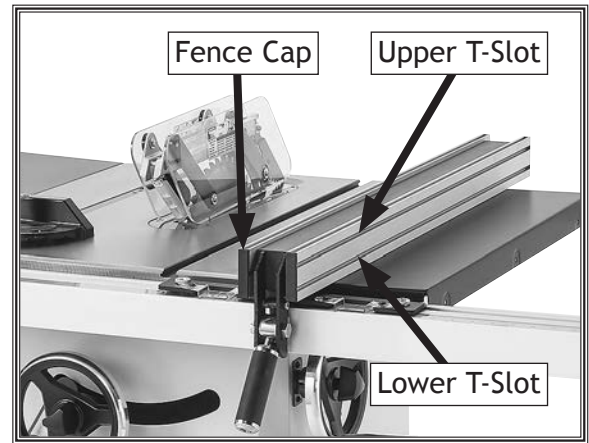

Figure 71. Auxiliary fence mounts on upper or lower T-slots of fence face.
1. Remove fence cap from fence face on which you will mount auxiliary fence (see **Figure 71**).
2. Slide (3) M6-1 hex nuts into either the upper or lower T-slot.